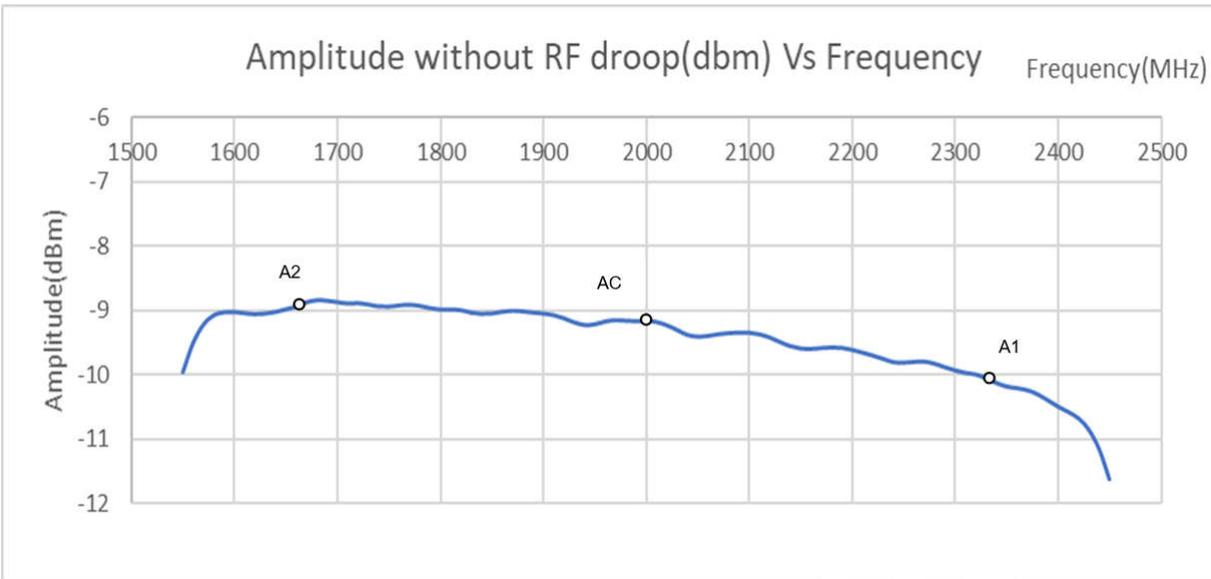

Figure 2-2. Amplitude without RF Droop vs Frequency
3. Figure 2-2 demonstrates a plot of amplitude Vs frequency of a channel A transmitter (TXA) which is configured with NCO frequency (F_{NCO}) at 2 GHz and transmitter data rate (F_{data}) of 983 MHz.